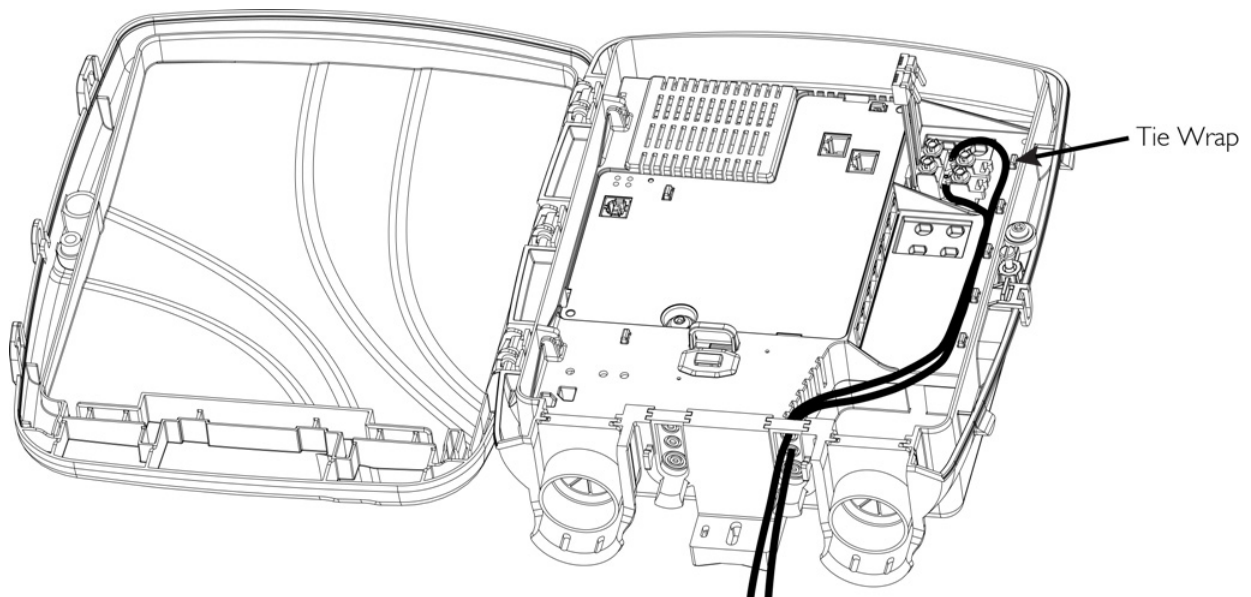

Figure 11: Connecting the Telephone Wires
1. Insert the RJ11 terminal bridges into the electronics unit, as shown in Figure 11.